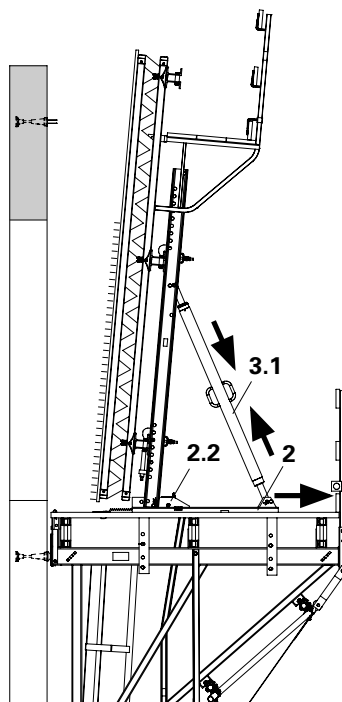

Fig. B1.15
4. Retract carriage (2). (Fig. B1.15)